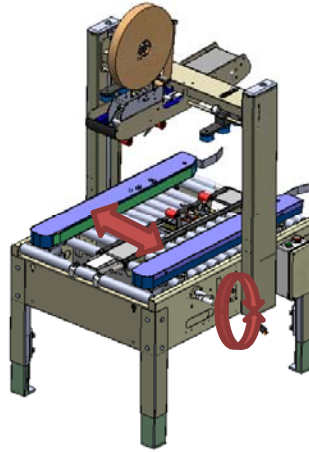

Figure-25
- b. Open Side Drives or Centering Guides as shown in **Figure-25**